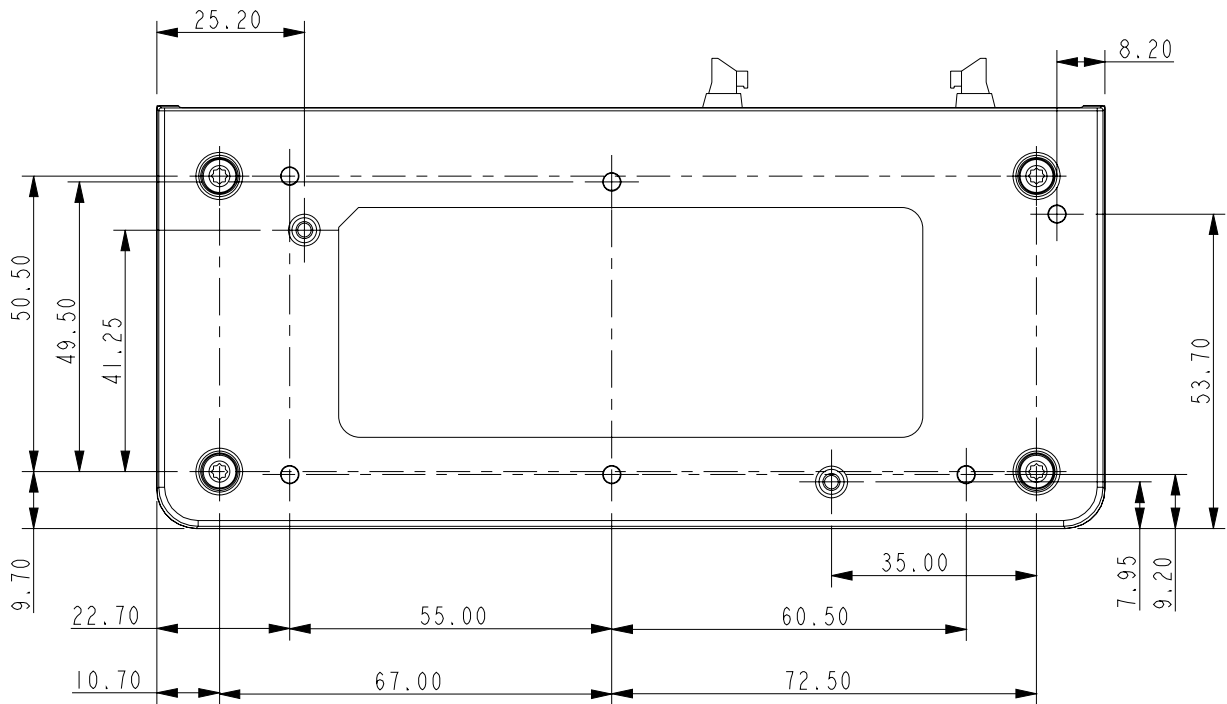

Figure 3: Back (mounting) View
The 9522B LBT incorporates (6) mounting holes on its bottom surface that can aid in its mounting. See Figure 3 for locations of these features. It is recommended that a thread-forming screw be used to mount the 9522B LBT via these features. Particularly, a Textron Camcar® Taptite® II Thread-Rolling Fastener of M3.5x0.6 thread type is recommended. This fastener has a 15IP Torx Plus® pan head and is available in lengths of 6, 8, 12, 16, and 20 mm as part number 3BE-P802-00, 3BE-P803-00, 3BE-P8185-00, 3BE-P804-00, 3BEP8186-00, and 3BE-P8187-00 respectively. Length should be chosen to ensure that penetration into the 9522B LBT housing does not exceed 11 mm. If a 6-32 thread type is desired, a Textron Camcar® Taptite® II Thread-Rolling Fastener with a 15IP Torx Plus® pan head is available in lengths of 1/4, 5/16, 3/8, 1/2, 5/8, 3/4, and 1 inch as part number 3BE-P814-00, 3BE-P8123-00, 3BE-P815-00, 3BE-P816-00, 3BE-P8124-00, 3BE-P817-00, and 3BE-P818-00 respectively. A 10IP Torx Plus® flat head version is also available in a single length of 1/2 inch as part number 3BE-P801-00. Another 6-32 thread type option is to insert a helical coil insert with a 6-32 internal thread into these features thus accommodating 6-32 threaded fasteners as mounting hardware for the 9522B LBT. National Aerospace Standard NASM122238 serves as a technical reference for the recommended helical coil insert.